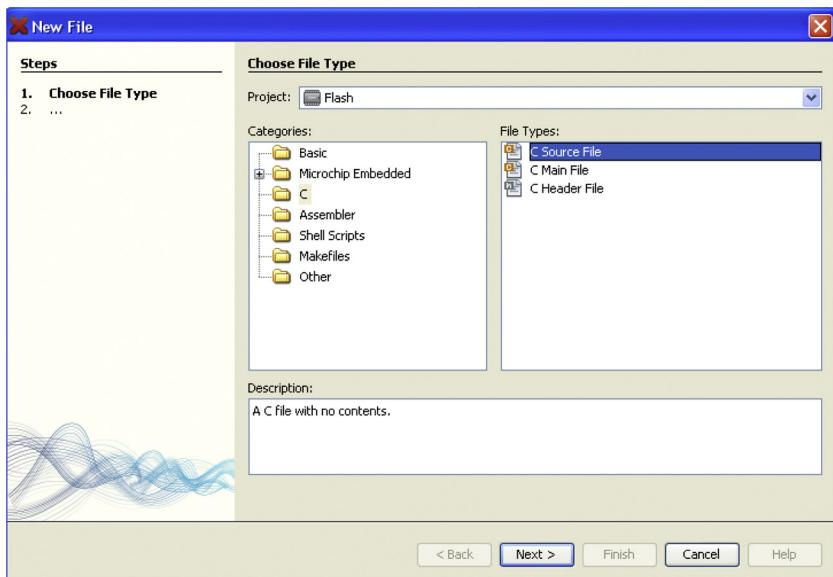

FIGURE 2.34 Selecting the file type.
1. The project to which the new file will be added is listed in the Project field. Select the file type (C and C Source File) and click **Next** (Figure 2.34).